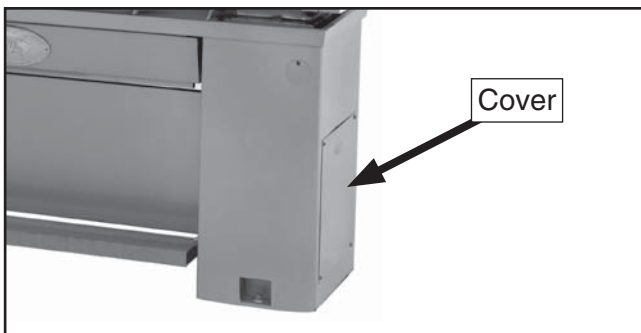

Figure 79. Coolant system cover on lathe stand.
2. Remove the cover shown in **Figure 79** from the lathe stand.
3. Remove the cover shown in **Figure 79**.